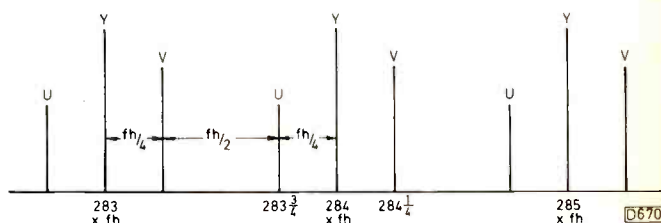

Fig. 2: PAL signal frequency spectrum. Note the quarter-line offset.
The frequency of the colour subcarrier used with UK PAL transmissions is 283.75 times the line frequency plus 25Hz. This works out at 4.43361875MHz. The quarter-wave offset (283.75 instead of 284) gives rise to the frequency spectrum shown in Fig. 2, with the U and V signals spaced by a quarter of the line frequency at each side of the luminance signal (Y). Obviously the luminance signal components occur at multiples of the line frequency (f_h). The U subcarrier is at 283.75 times f_h , the nearest cluster of luminance energy being at 284 times f_h . In the PAL system the phase of the V signal is shifted by 180° on alternate lines, which equates to switching the U subcarrier by 0.5 f_h . Thus the V sidebands are, as shown, separated from the U sidebands by 0.5 f_h . This handy frequency separation of the U and V signals means that a comb filter can be used to separate them in the receiver prior to detection, the Y signal having previously been filtered out.